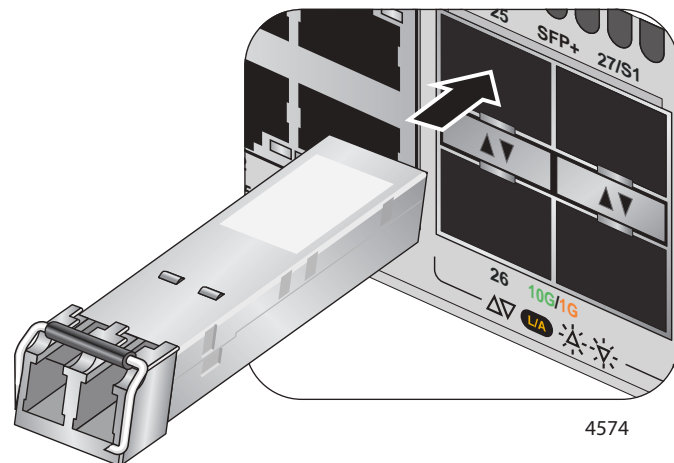

Figure 51. Installing an SFP Transceiver
3. If you are installing the transceiver in a top port, position the transceiver with the Allied Telesis label facing up. If you are installing the transceiver in a bottom port, position the transceiver with the label facing down. Refer to Figure 51.